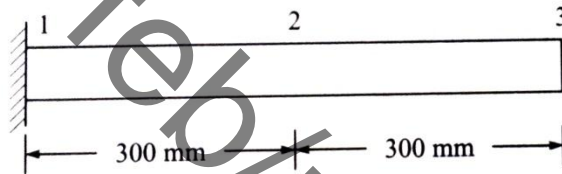

Figure 7
8. Evaluate nodal frequencies of the beam shown in figure 7. Use two element model, take $E = 210 \text{ GPa}$, weight density 7800 kg/m^3 , $A = 400 \text{ mm}^2$ and $I = 5000 \text{ mm}^4$. [15]